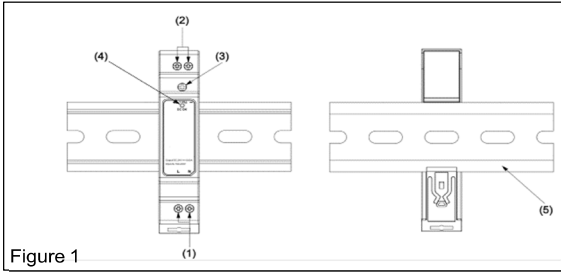
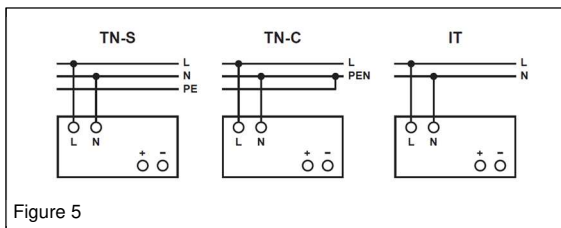

Figure 1
Figure 5
2. Device description (Fig. 1)
5.1. Input connection (Fig. 1 (1), Fig. 5)
Use L and N connections of input terminal connector (see Fig. 1 (1)) to establish the 100-240 VAC connection. The unit is protected with internal fuse (not replaceable) at L pin and it has been tested and approved on 20A (UL) and 16A (IEC) branch circuits without additional protection device.
5.2. Output connection (Fig. 1 (2))
Use the "+" and "-" screw connections to establish the 12 VDC connection. The output provides 12 VDC. The green LED DC OK displays correct function of the output (Fig. 1 (3)). The device has a short circuit and overload protection and an over voltage protection limited to < 18 VDC.